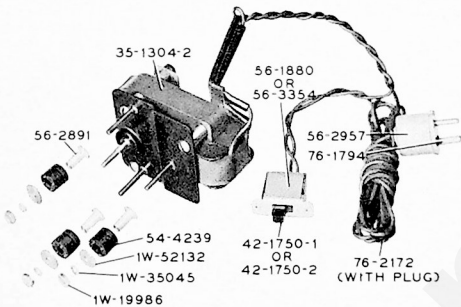

Figure 21. MOTOR REMOVAL
d. Remove three nuts from motor mounting bolts. Be sure there are three lockwashers, three flat washers, three rubber grommets, and three spacers, as shown in figure 21.